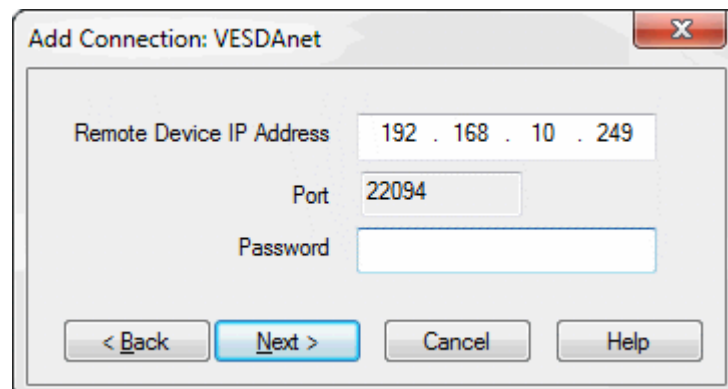

Figure 5-6: Enter IP Address
2. Enter the IP address of the detector. Enter the password that has been set for Ethernet and WiFi authentication. Select **Next** (Figure 5-6).